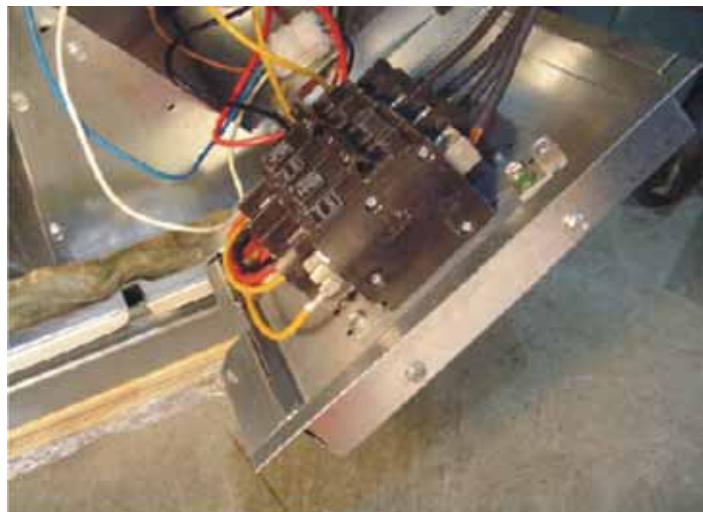

FIGURE 7
Mount the breaker (or terminal block) to the rear mounting plate using the four (4) blunt tip screws included in the unit literature bag. The screw heads should all be located on the outside of the mounting plate as shown in Figure 7.